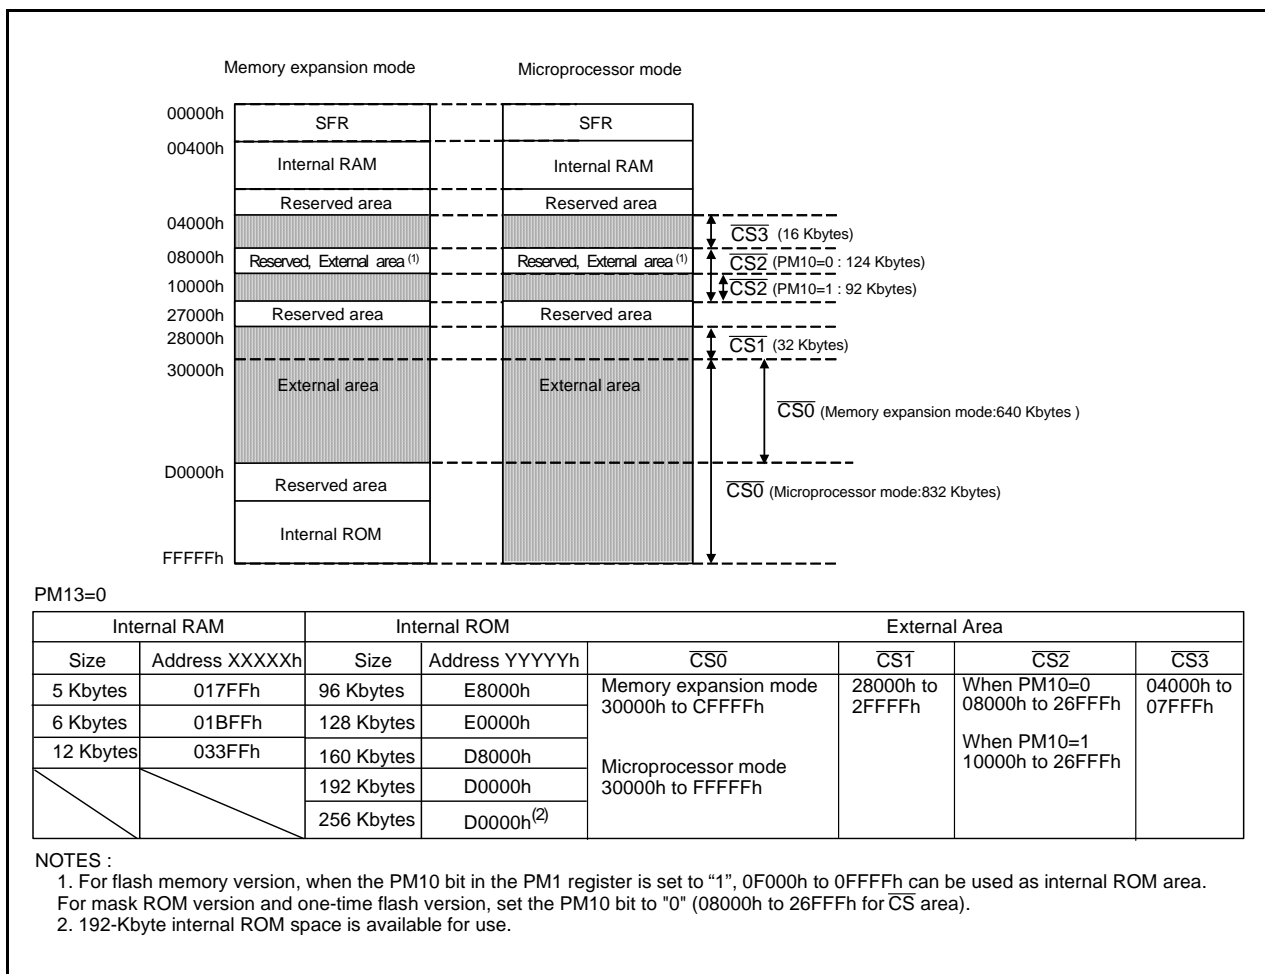

Figure 8.1 Memory Mapping and  $\overline{CS}$  Area in 1-Mbyte mode (PM13=0)
In this mode, the memory space is 1 Mbyte. In 1-Mbyte mode, the external area to be accessed is specified using the  $\overline{CS}_i$  ( $i = 0$  to 3) signals (hereafter referred to as the  $\overline{CS}_i$  area). Figure 8.1 and 8.2 show Memory Map and  $\overline{CS}$  area. Refer to Figure 8.1 for models without the PM13 bit. See **Figure 6.2 PM1 Register (1)** and **Figure 6.3 PM1 Register (2)** to check presence or absence of the PM13 bit.